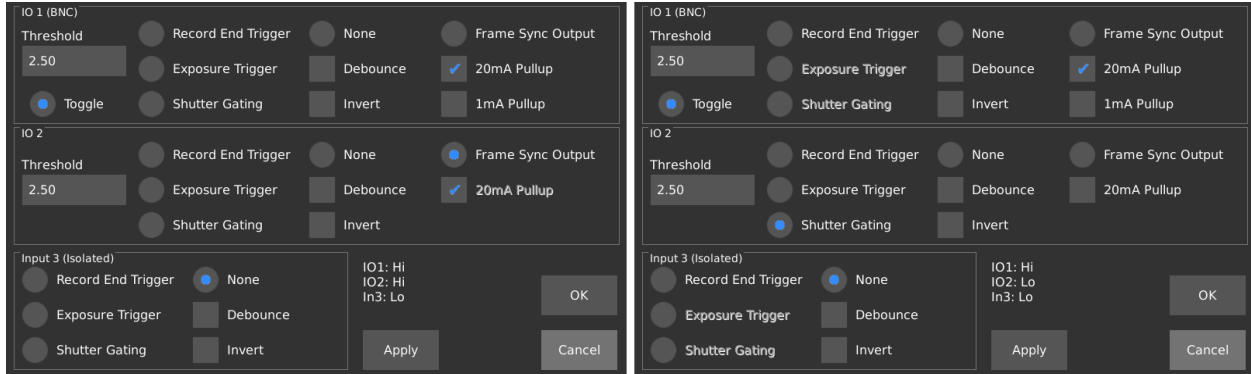

Figure 2.4 Toggle option. Left, transmitter camera settings. Right, receiver camera settings
- Set up the transmitter and receiver cameras' trigger settings as seen in Figure 2.4, then press **“Apply”** and **“OK”**.